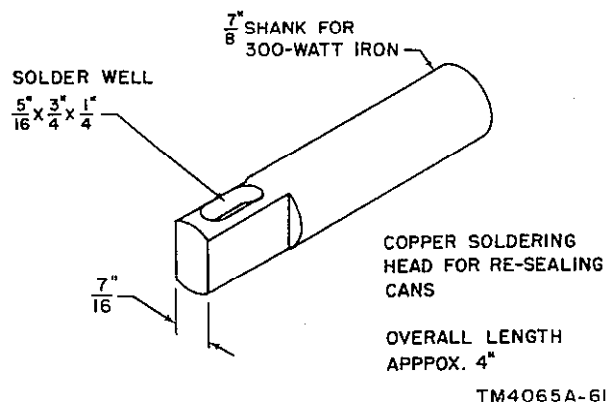

Figure 48. Soldering iron tips.
b. One 100-watt and one 200-watt soldering irons, with specially prepared tips (fig. 48) for unsealing the can.
c. A 300-watt soldering iron with specially prepared tip (fig. 48) for resealing the can.
b. Anchor the 100-watt soldering iron with the special semicircular soldering tip (fig. 48), so that the iron will not move. Hold the 200-watt soldering iron in one hand, and clamp the circular base on the unit between the two semicircular soldering tips. Press the soldering iron so that the unit is held securely in the vertical position with its base facing upward. The assembly is held secure by the base rim and not by the shell of the can. Hold the cover of the can with one hand while holding the iron with the other hand.